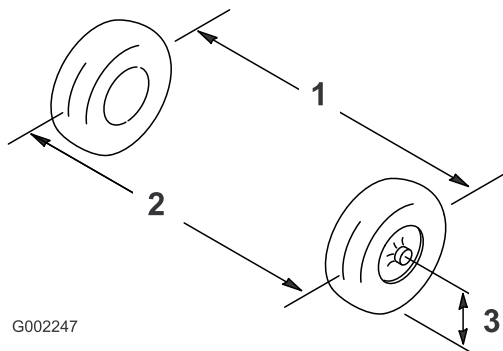

Figure 133
2. Measure the distance between of the front tires at the axle height at the front and rear of the front tires (Figure 133).